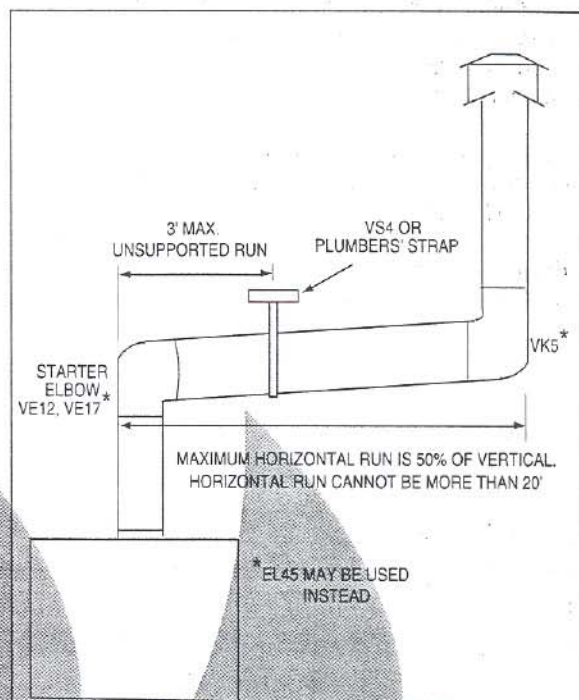

**Figure 15**
a. **Clearances.** See Figure 15 for clearance information.